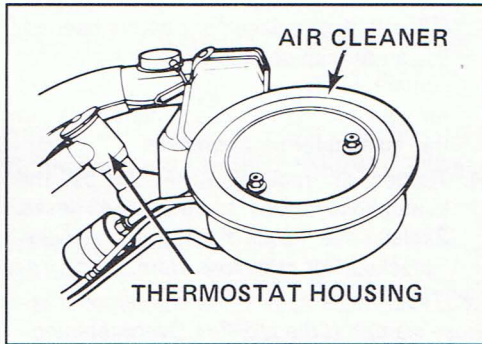

Figure 1 - Top of engine
1. When the engine is cool, open the rear compartment lid for access to the thermostat housing cap and the thermostat. The thermostat housing is located at the upper left hand portion of the engine. See Figure 1.